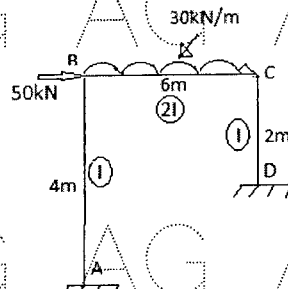

Figure 3
3. Analyze the portal frame shown in figure 3 by Moment Distribution method and draw BMD. [10]